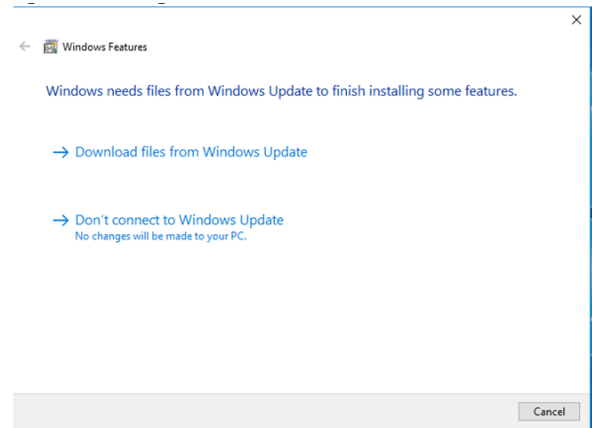

Figure 4. Prompt to Download Windows Update
- c) After selecting the checkbox and clicking **OK** the dialog box in Figure 4 appears. Please note a valid internet connection is needed for this step. Select the **Download files from Windows Update** option and after installation the **EVAL-AD7768FMCZ** will operate as expected.